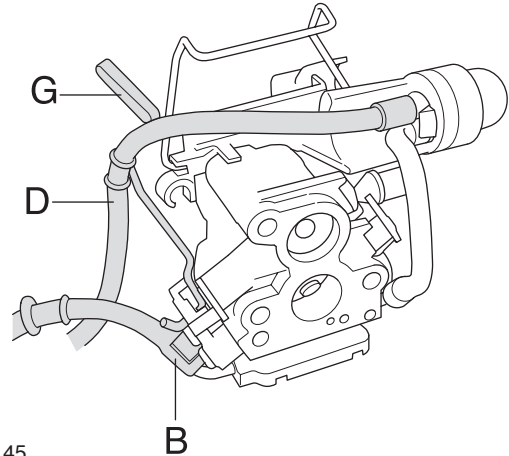

Fig 45
3. Unhook the throttle actuator rod (G) from the carburettor (see figure 45).
4. Dismantle the fuel hose (B) and the fuel pump return hose (D) (see figure 45).
4. Fit the fuel hose (B) and fuel pump return hose (D) on the carburettor (see figure 45).
5. Mount the throttle actuator rod (see figure 45).
Use suitable pliers with a plain cutting face and loosen the hose (B) (see figure 45) from the fuel tank. Align the cut-out against the plastic pin when assembling. Replace the return hose when required.